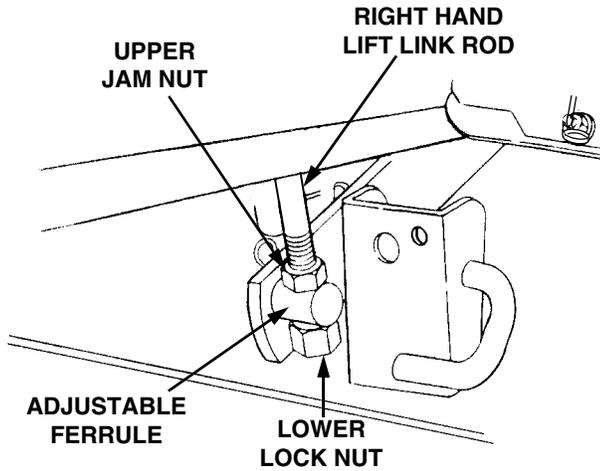

Figure 52
7. Side-to-side leveling is obtained utilizing the adjustment ferrule and right hand lifty link rod (Refer to Figure 52).
- Loosen the upper jam nut on the lift link rod and turn away from the adjustment ferrule. Turn the lower lock nut upward (tighten) on the threads of the rod to raise the right side of the mower deck. Turn the lock nut down (loosen) on the threads to lower the right side of the mower deck (See Figure 52).